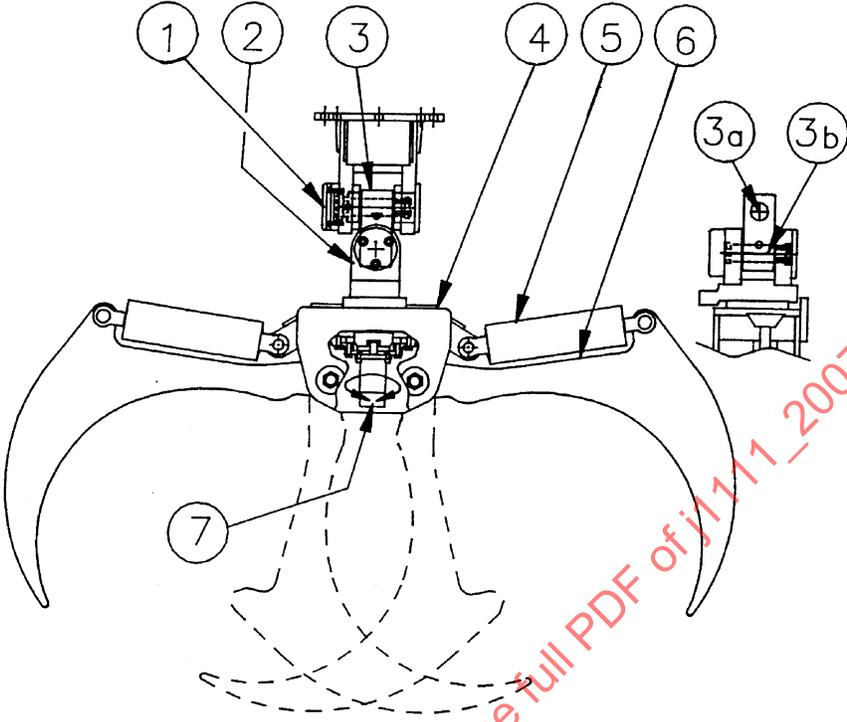

FIGURE 1—LONG ARM GRAPPLE
3.1.1 LONG ARM (FIGURE 1)—Grapple arm cylinders are exposed and each operates the grapple arm on its side (left or right) of the grapple head.